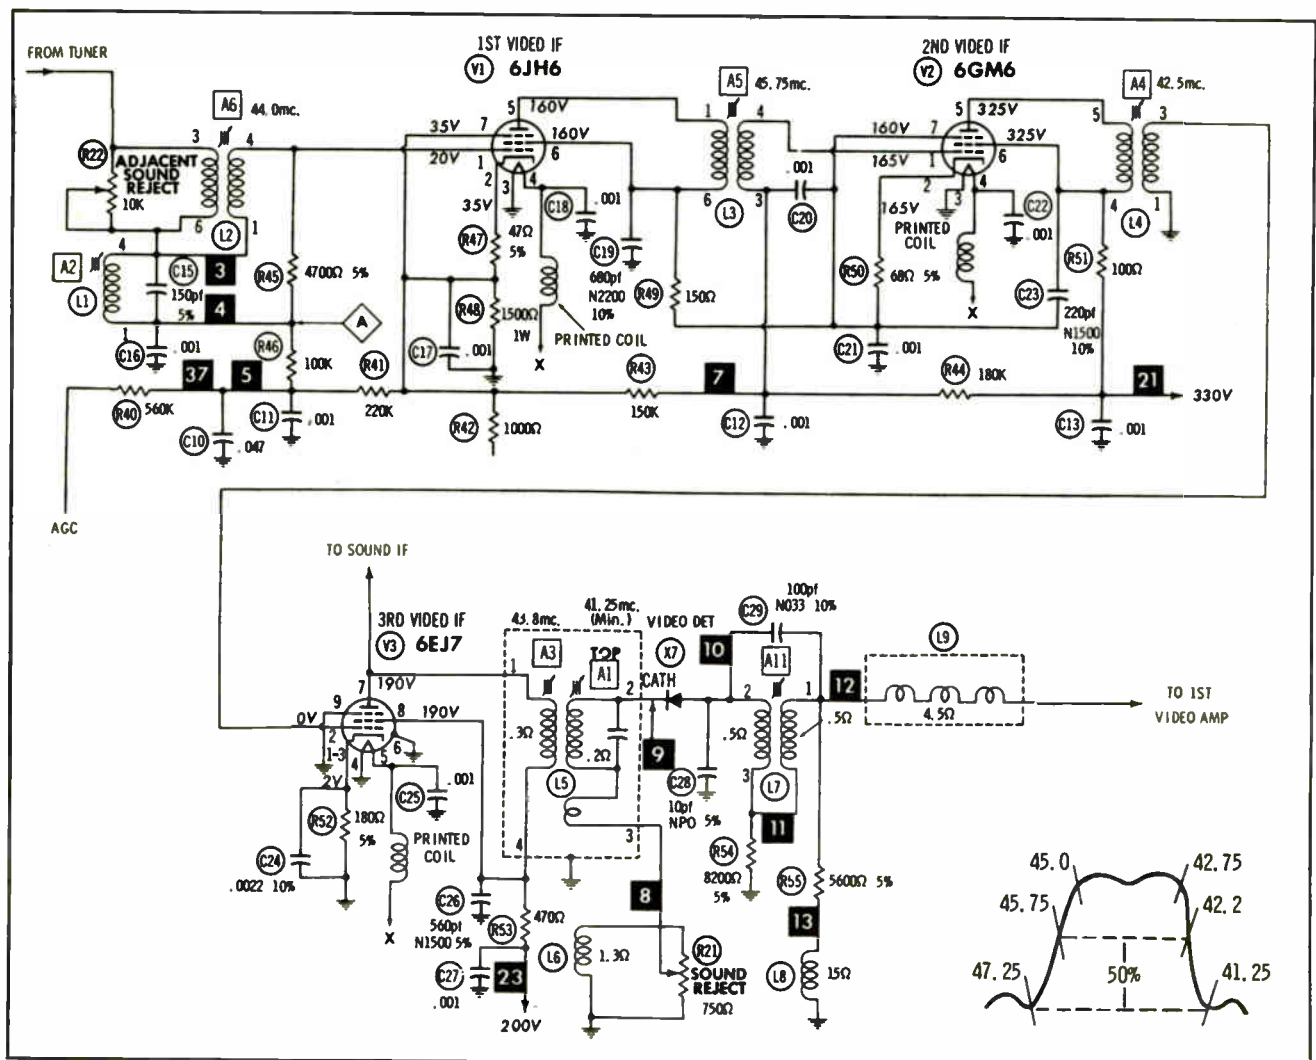

Fig. 2-6. An i-f amplifier used in a number of color-television receivers.
- a. Defective oscillator-mixer or i-f amplifier tube. In Fig. 2-4, V202 would be suspected. In Fig. 2-6, V1, V2, or V3 would be suspected.